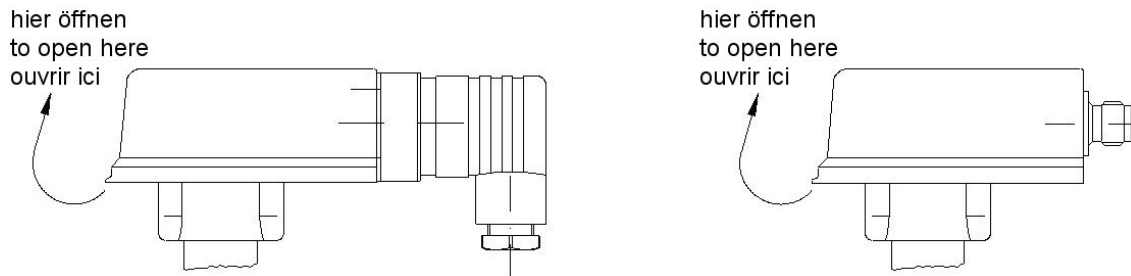

Fig. 17
- ✎ In order to adjust the switching unit, open the cover of the switching head (Fig. 17) (not required for VK3...)